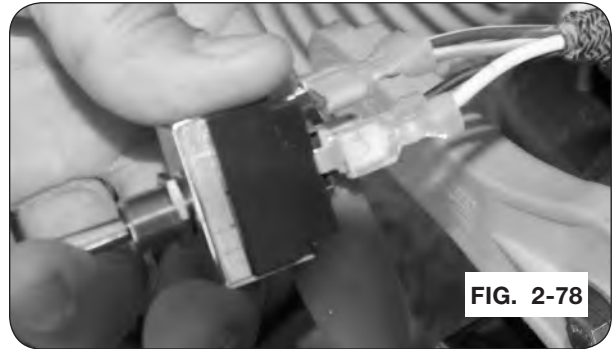

FIG. 2-78
30. Plug in two-pin weather pack from the electric ball valve to the 2-pin weather pack from the sprayer. (FIG. 2-78)